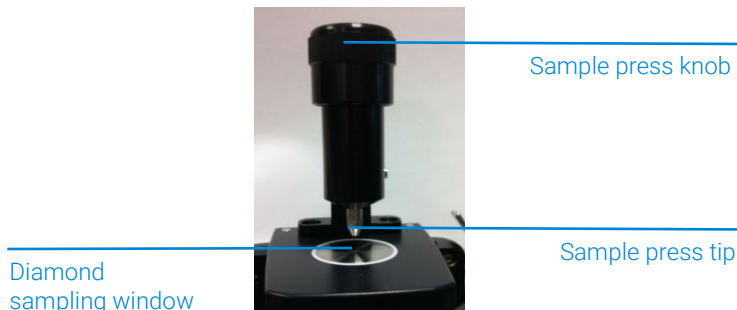

Figure 5. Diamond ATR accessory sample press in highest position.
In the sample loading and cleaning mode, the sample press should be in the highest position, so the sample press tip is well above the diamond sampling window (see Figure 5). It is in this position that the sample mounting area can be easily accessed for loading the sample into place and for cleaning the sampling surfaces before the next sample is analyzed.
- 1 Open the sample press by rotating the top knob counterclockwise until the top of the press travel is reached (see Figure 5).
- 1 Turn the sample press knob in a counterclockwise direction to open the sample press so that the tip is elevated slightly from the diamond sampling window (see Figure 5).